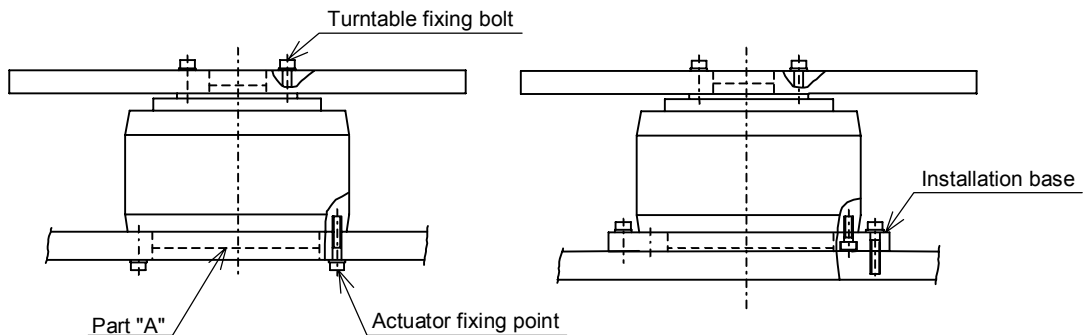

Fig. 2.1 Actuator Installation
- The part "A" in **Fig. 2.1** contains the precision part (resolver).